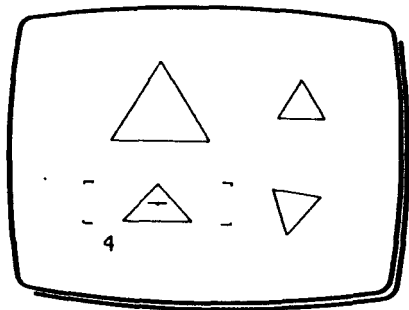

Fig 4
- 2 Release R when the cursor frame is proportioned as (4) in Fig 4, then rotate Z to alter the size, and move XY to position the cursor frame at (4).**